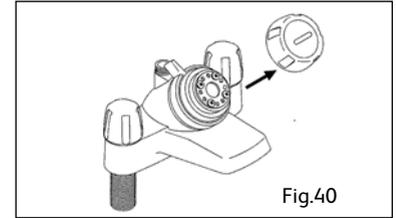

Fig.40
- Mark 1 models:** The On/off control is a push fit and may be removed by pulling it away from the Aquamixa (Fig 40).